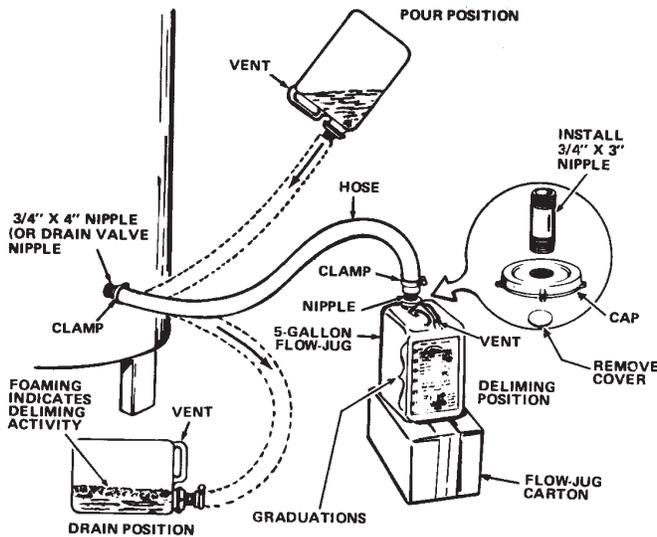

FIGURE 16
6. Lift container to the "Pour" Position, see Figure 16, being careful to keep the vent in the handle above the liquid level and pour the UN•LIME into the heater.
8. Let UN•LIME remain in the heater for 5 minutes and then lower the container to the "Drain" Position, see Figure 16.